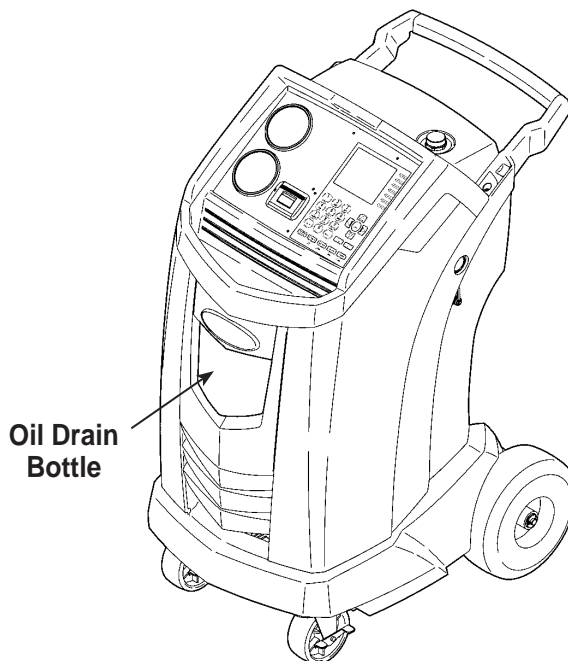

Figure 11
3. Remove the oil drain bottle (see Figure 11) from the Beissbarth machine. Drain the oil bottle, and dispose of oil according to regulations in your area.